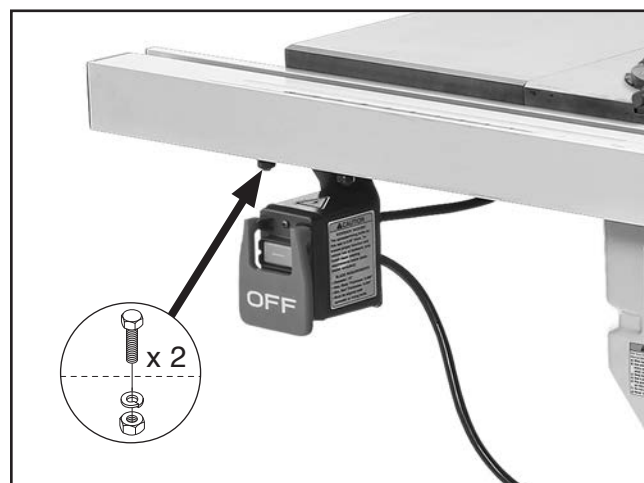

Figure 8. ON/OFF switch secured to front extension rail.
10. Secure ON/OFF switch to hex bolts installed in **Step 9** using (2) lock washers and hex nuts removed in **Step 4** (see **Figure 8**).